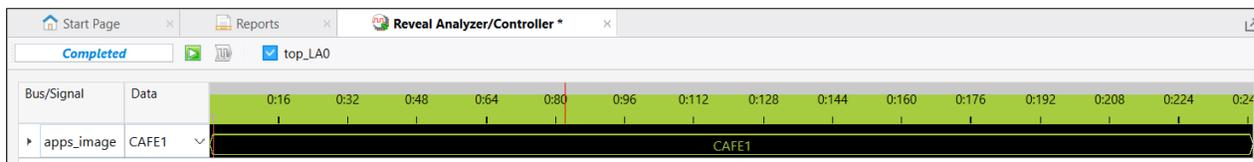

Figure 7.9. apps\_image Showing CAFE1
3. Run Reveal Analyzer by clicking the  button. The apps\_image displays CAFE1 and LED D45 and D46 blink, indicating that Alternate Pattern 1 is running on the device (Figure 7.9).